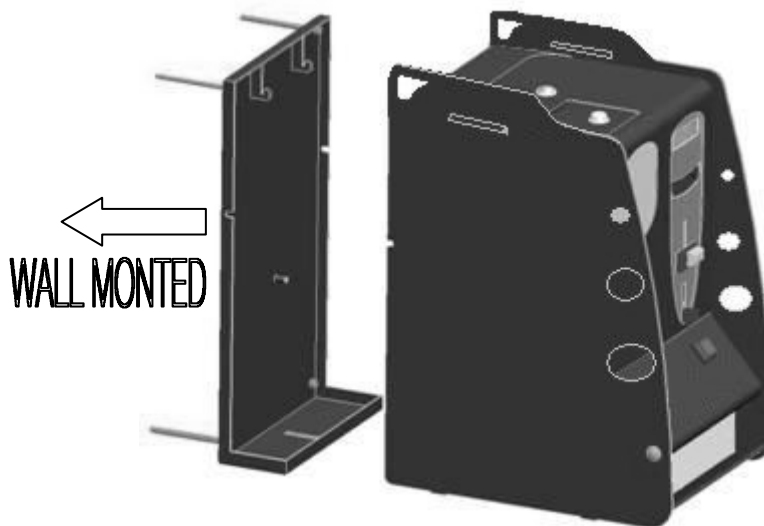

Fig. 5
The following drawing shows the dimensions of the machine in order to facilitate its placement and installation. The Easy PRO change machine can be installed in three different ways: on a countertop, on a support base (optional) (Figures 3-4), or wall-mounted on the appropriate “Easy-up” flange (optional) (Figure 5).
- Mount Easy-up onto the wall with a screwdriver and through the four supporting brackets (Figure 5)